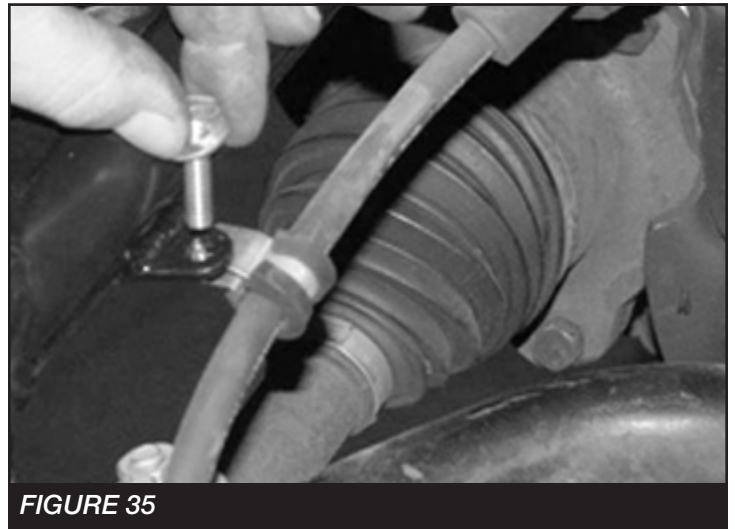

FIGURE 35
42. Attach the brakeline to the small tab on the control arm using the FTCLAMP, 1/4"-20 x 1" bolts, nuts and washers. **SEE FIGURE 35**